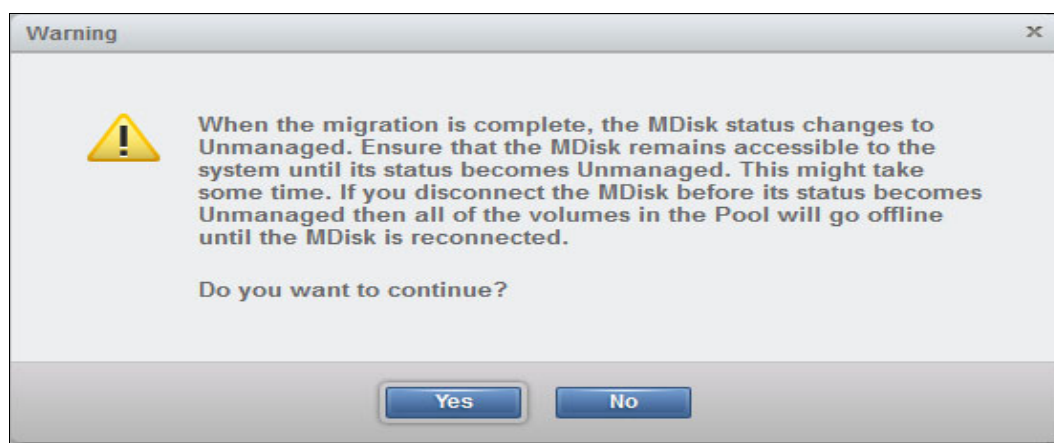

Figure 7-31 Secure erase of the drives in Enclosure ID 1
- This series of commands (Figure 7-31) securely erases the drives for Enclosure ID 1. The loop (highlighted by number 1) filters just enclosure ID 1. The `lsdrive` command (2) shows the drive status as offline while the erase process occurs.